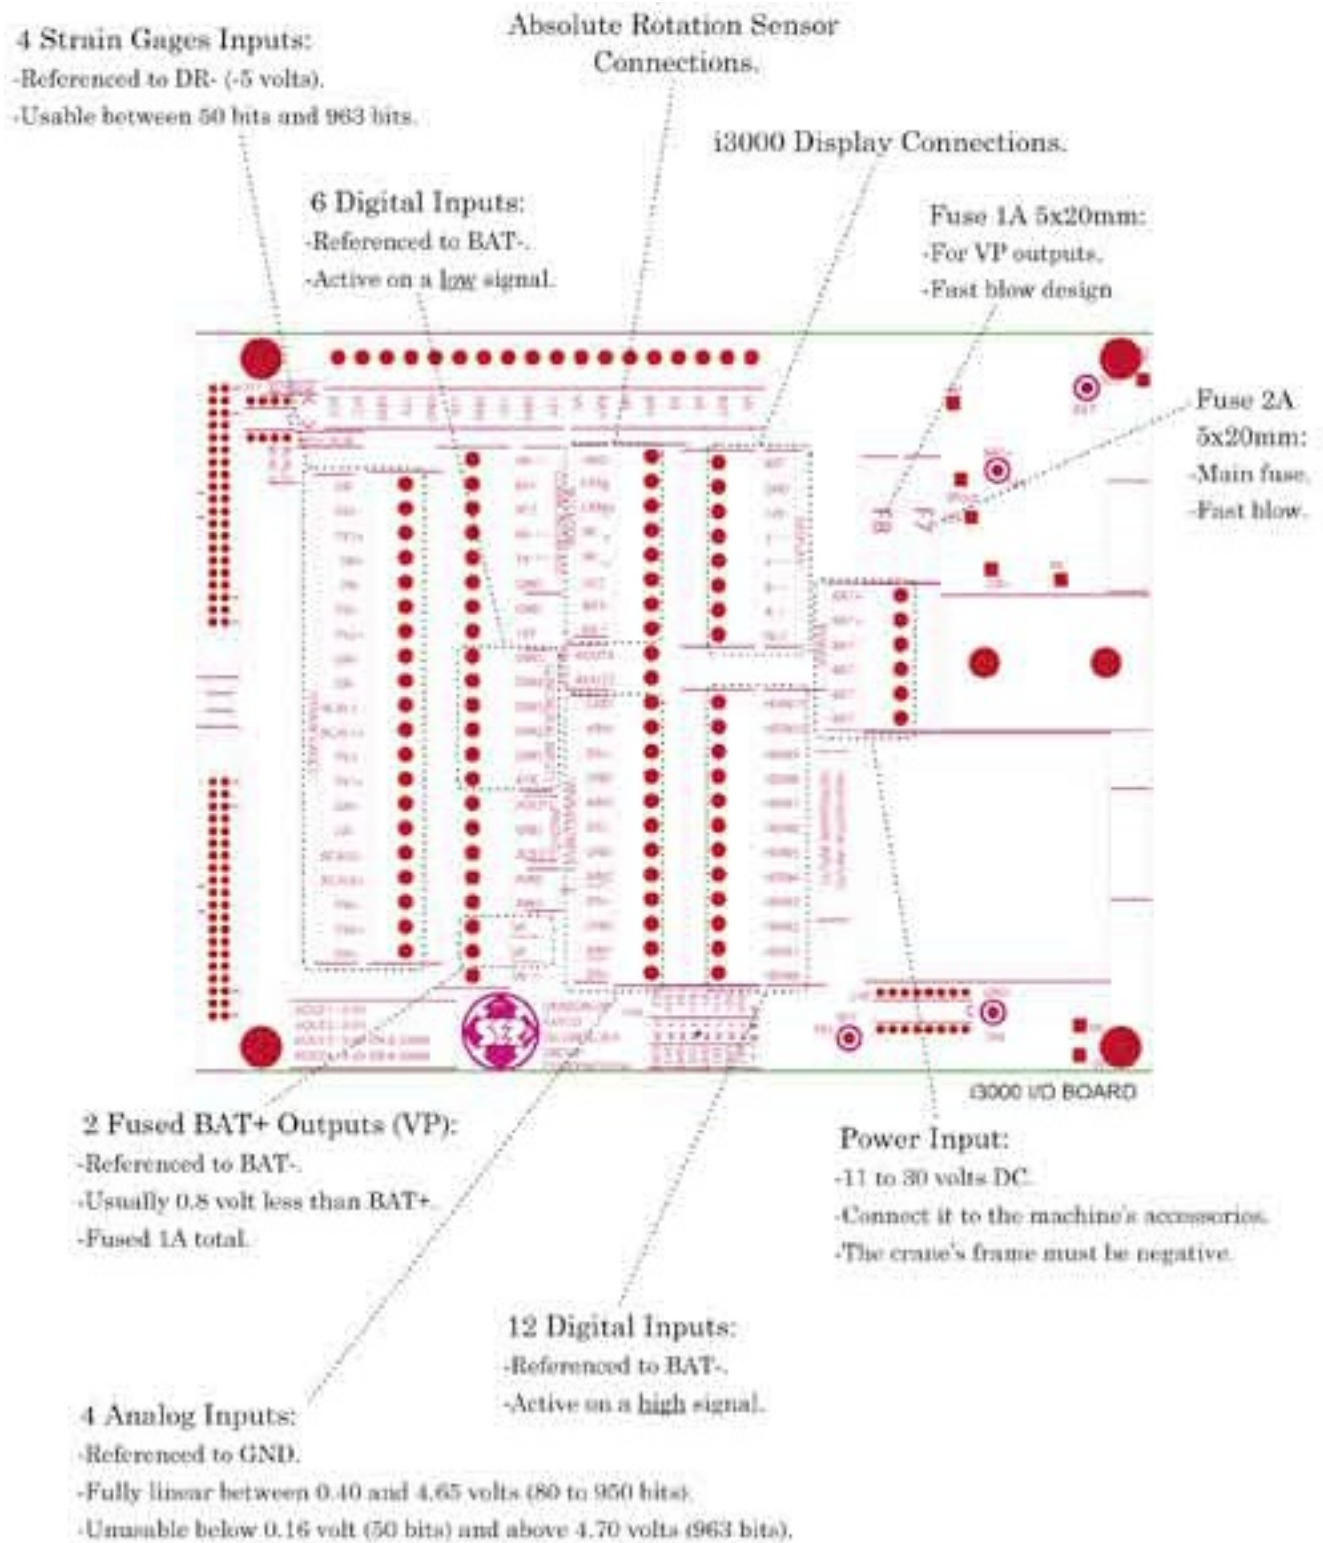

Figure 2.4: IO board and terminal blocks description
2. Loosen the 10 spring screws of the central processing panel, and carefully lift the panel out of the box to get access to the IO board. This panel is connected to the I/O board via two ribbon cables, these cables may be temporarily disconnected to improve access to the terminations below but take care to protect the loose assembly from damage. The IO board is described on figure 2.4.